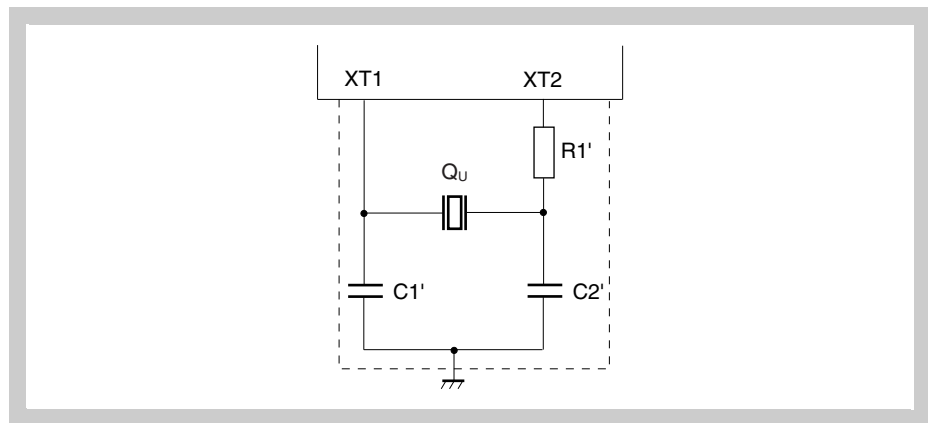

Figure 4-2 Recommended Sub Oscillator Circuit
2. A crystal resonator has to be connected to the sub clock input pins as shown in Figure 4-2.